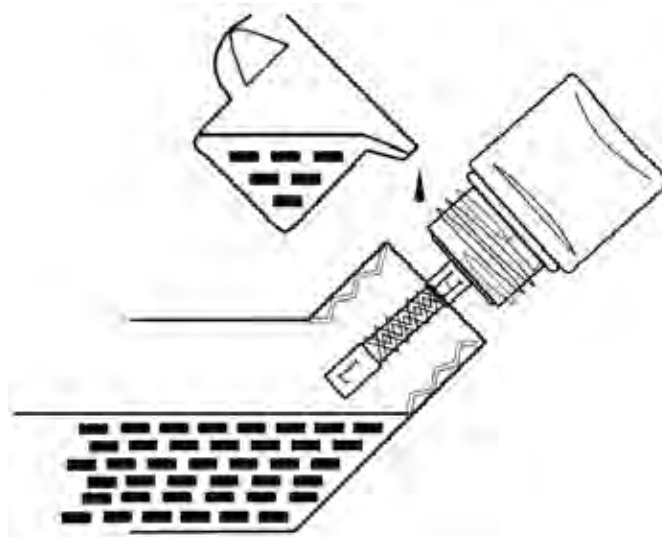

Figure 16 - Checking Oil Level
- **Acceptable Oil Level** – Oil is visible on the crosshatches between the H and L lines on the oil fill plug/dipstick (see Figure 16).
8. Continue to add oil until the oil is at the correct level (see Figure 16).